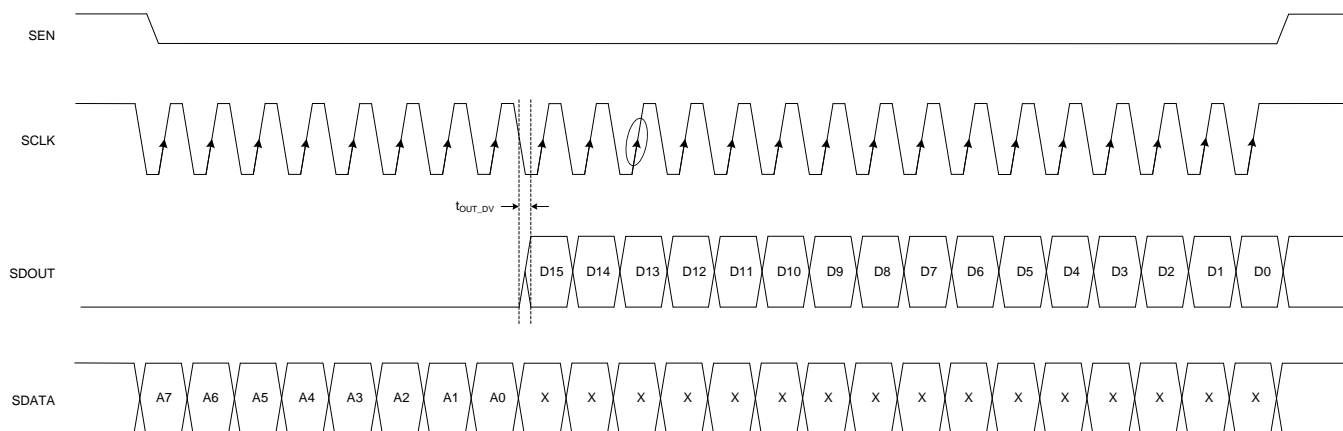

Figure 19. Serial Interface Register Read Timing Diagram
(1) Minimum values are across the full temperature range of $T_{MIN} = -40^{\circ}\text{C}$ to $T_{MAX} = +85^{\circ}\text{C}$ and $AVDD = 3.3\text{ V}$.
(2) See Figure 19.
The device includes an option where the contents of the internal registers can be read back. This readout may be useful as a diagnostic test to verify the serial interface communication between the external controller and the AFE. First, the REGISTER READOUT ENABLE bit (bit 1, register 00h) must be set to '1'. Then, initiate a serial interface cycle specifying the register address (A[7:0]) to be read. The data bits are *don't care*. The device outputs the contents (D[15:0]) of the selected register on the SDOUT pin. SDOUT has a typical 20-ns delay (t_{OUT_DV}) from the SCLK falling edge. For a lower speed SCLK, SDOUT can be latched on the SCLK rising edge. For a higher speed SCLK (for example, with an SCLK period less than 60 ns), latching SDOUT at the next SCLK falling edge is preferable. Figure 19 shows the read operation timing diagram (timing specifications follow the same information provided in Table 3). In readout mode, REGISTER READOUT ENABLE can still be accessed through SDATA, SCLK, and SEN. To enable serial register writes, set the REGISTER READOUT ENABLE bit back to '0'.